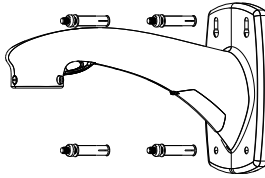
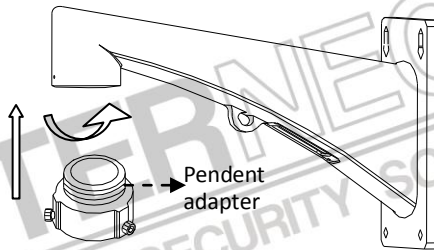

Figure 2-2 Secure the Mount
Figure 2-3 Pendent Adapter
- The mount in Figure 2-2 is the recommended mount for this series of speed dome, and a pendent adapter is required if any other mount is selected. See Figure 2-3.